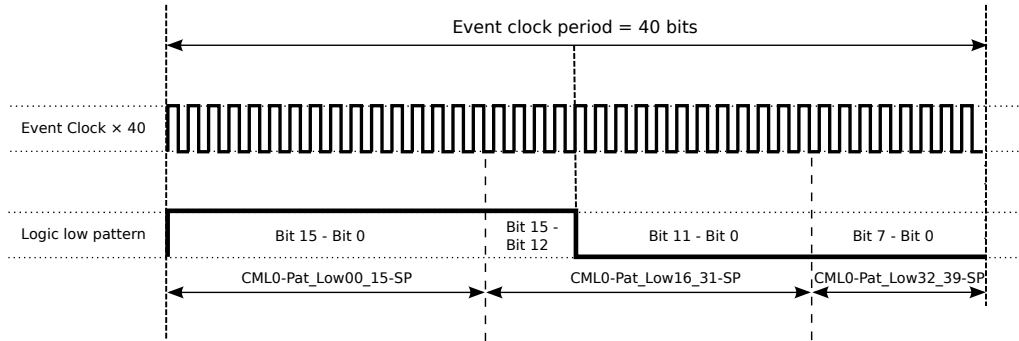

Figure 4: Generate the event clock
as seen in Figure 4, is 40 bits long and is sent out with a bit rate of 40 times the event clock rate. It is configured to replicate the event clock phase and frequency.
- `CML0-Pat_Low00_15-SP=0xFFFF`: Set logic low pattern bits 0-15. The Figure 4 shows that the bits 15-0 must be set as follows: 1111 1111 1111 1111, which translates to 0xFFFF. Each bit represents 1/40 of the event clock period.
- `CML0-Pat_Low16_31-SP=0xF000`: Set signal low pattern bits 16-31. The Figure 4 shows that the bits 15-0 must be set as follows: 1111 0000 0000 0000, which translates to 0xF000.
- `CML0-Pat_Low16_31-SP=0x0`: Set signal low pattern bits 32-39, as seen in Figure 4. Note, that only bits 32-29 (lower 8 bits) can be used.